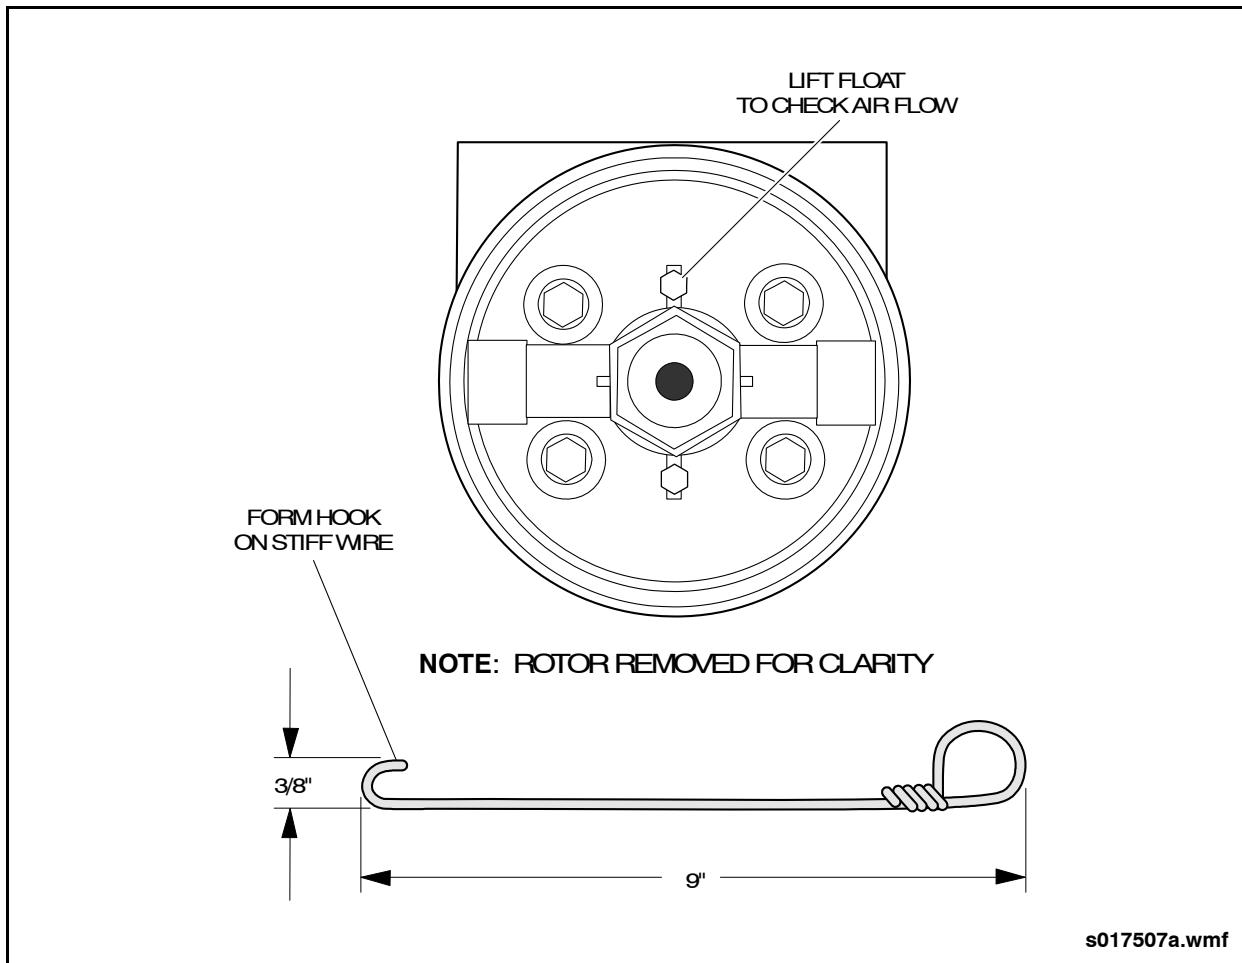

Fig. 4-34: Float Assembly
6. Check the float mechanism for proper operation as follows: See "Fig. 4-34: Float Assembly" on page 62.